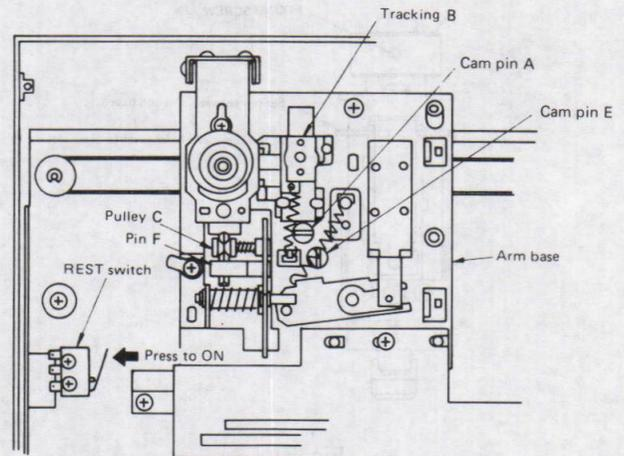

Fig. 1
- 1) Remove the main turntable belt and the horizontal motor belt. With no record, lift the tone arm base with the finger and move it to the centre of turntable. Press the actuator of REST switch to put the switch into the ON state. (See Fig. 1)
- 1) Put the player into a state as in 1 (1). Press the LIFT/CUE button to lower the tone arm. Press again the LIFT/CUE button to raise the arm and make sure that the arm rises without tilting to right or left. If the arm tilts to either right or left, allow the arm to lower and adjust a screw of pulley C (Fig. 1) until the tone arm rises and lowers without tilting.
- 1) Put the player into a state of 1 (1). With the tone arm raised, turn the pin F to adjust the clearance between the pulley C and pin F (shown in Fig. 1) to 0.5 ± 0.3 mm.